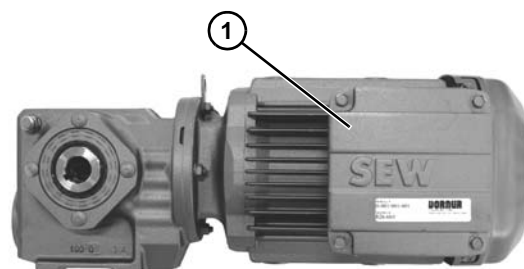

Figure 8
- Remove cover (**Figure 8, item 1**).